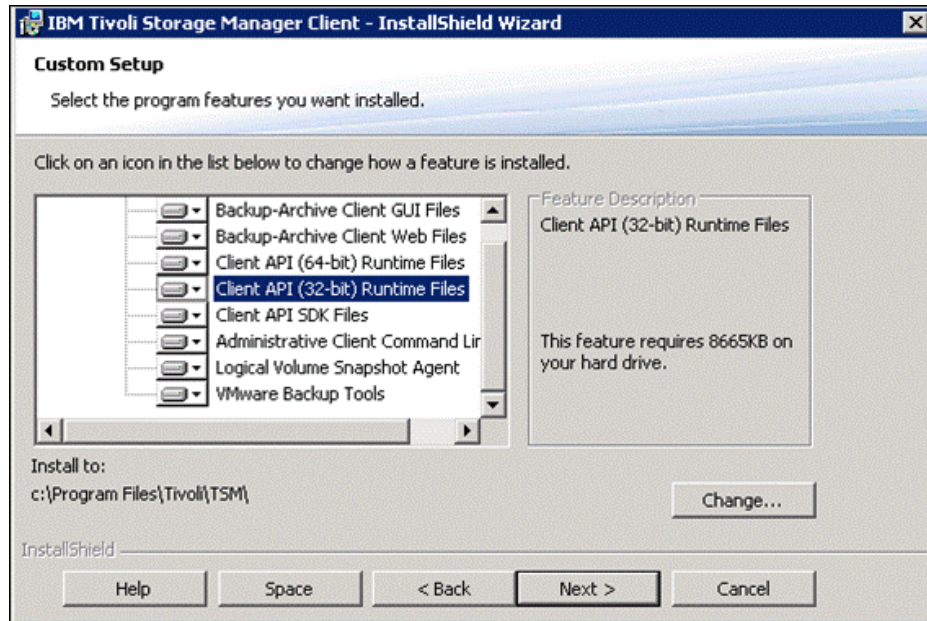

Figure 20-19 Tivoli Storage Manager installation program
1. In the wizard (Figure 20-19), select all the components to install, and click **Next**.